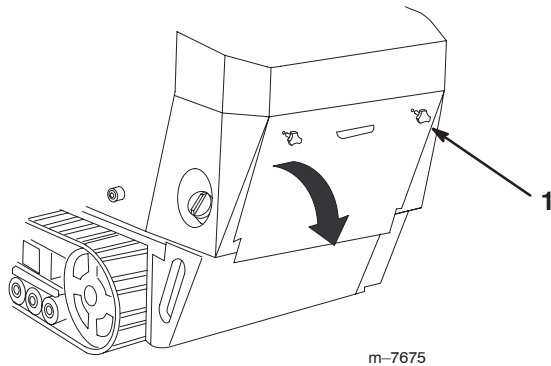

Figure 20
1. Unscrew the 2 hand knobs securing the rear access cover to the machine (Fig. 20).
2. Tilt the rear access cover down and remove to access the internal components (Fig. 20).
2. Push the access cover forward, lining up the hand knob screws with the threaded holes in the machine (Fig. 20).
3. Screw the hand knobs tight to secure the rear access cover in place (Fig. 20).